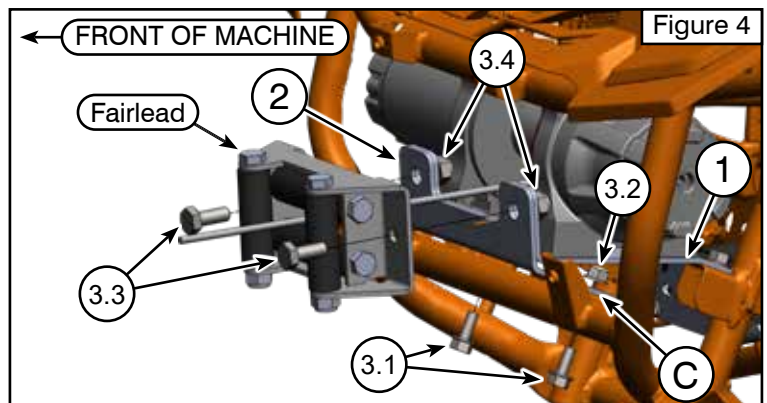

Figure 4
5. Position the support bracket (2) underneath the winch mount bracket (1). Loosely install bolts (3.1) and nuts (3.2) through the frame tabs (C). See **Figures 4 and 5**.
6. Attach the fairlead by aligning it with the support bracket (2), winch mount bracket (1), and securing it with bolts (3.3) and nuts (3.4). See **Figures 4 and 5**.